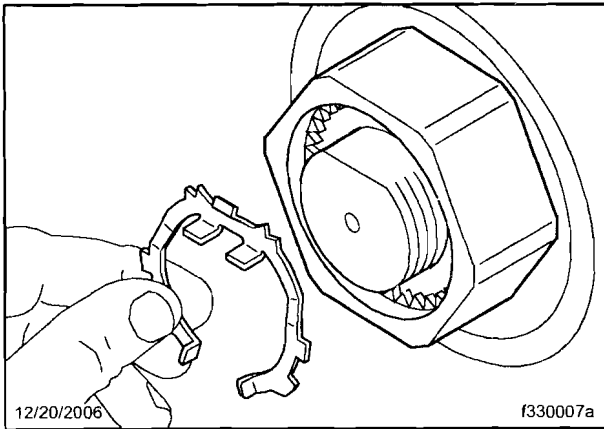

Fig. 5, Lockring Position
24. Hold the locking with the keeper projections facing outboard. See Fig. 5.